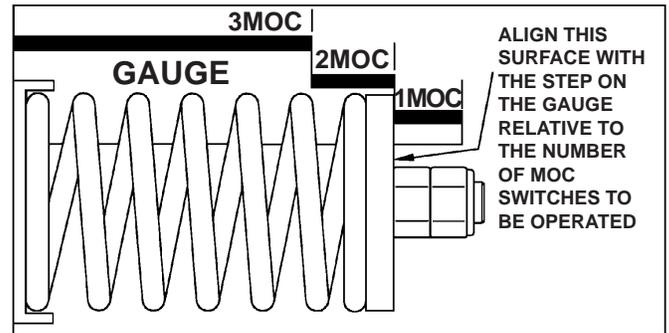
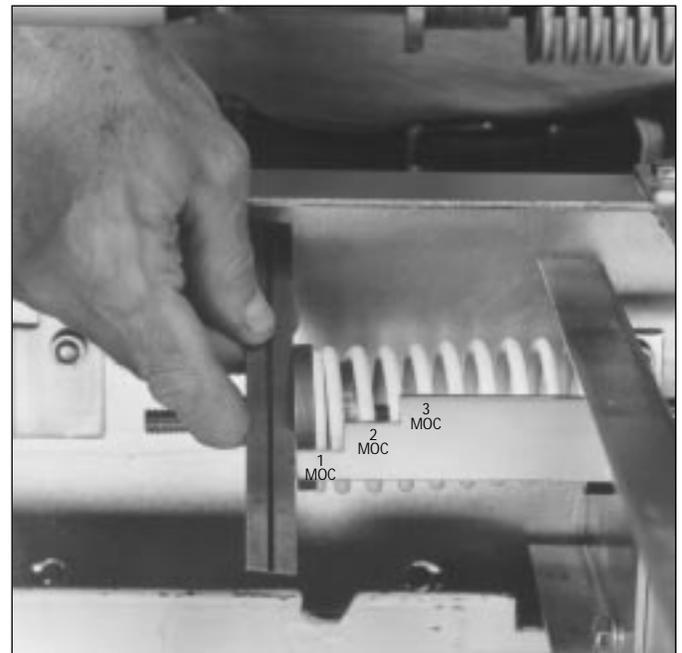

Figure 4-3 Drive Spring Adjustment Graphic
Figure 4-4 Checking Drive Spring for Proper Adjustment for One Installed MOC Switch
- Step 4:** Anytime an adjustment is made, use a straight-edge to make sure that the flat surface end of the spring is properly aligned with the correct step on the gauge for the number of installed MOC switches. Figure 4-4 shows the alignment being checked for one installed MOC switch. Always refer back to the graphic in Figure 4-3 to ensure adjustment of the spring to the proper step on the gauge for the number of installed MOC switches.